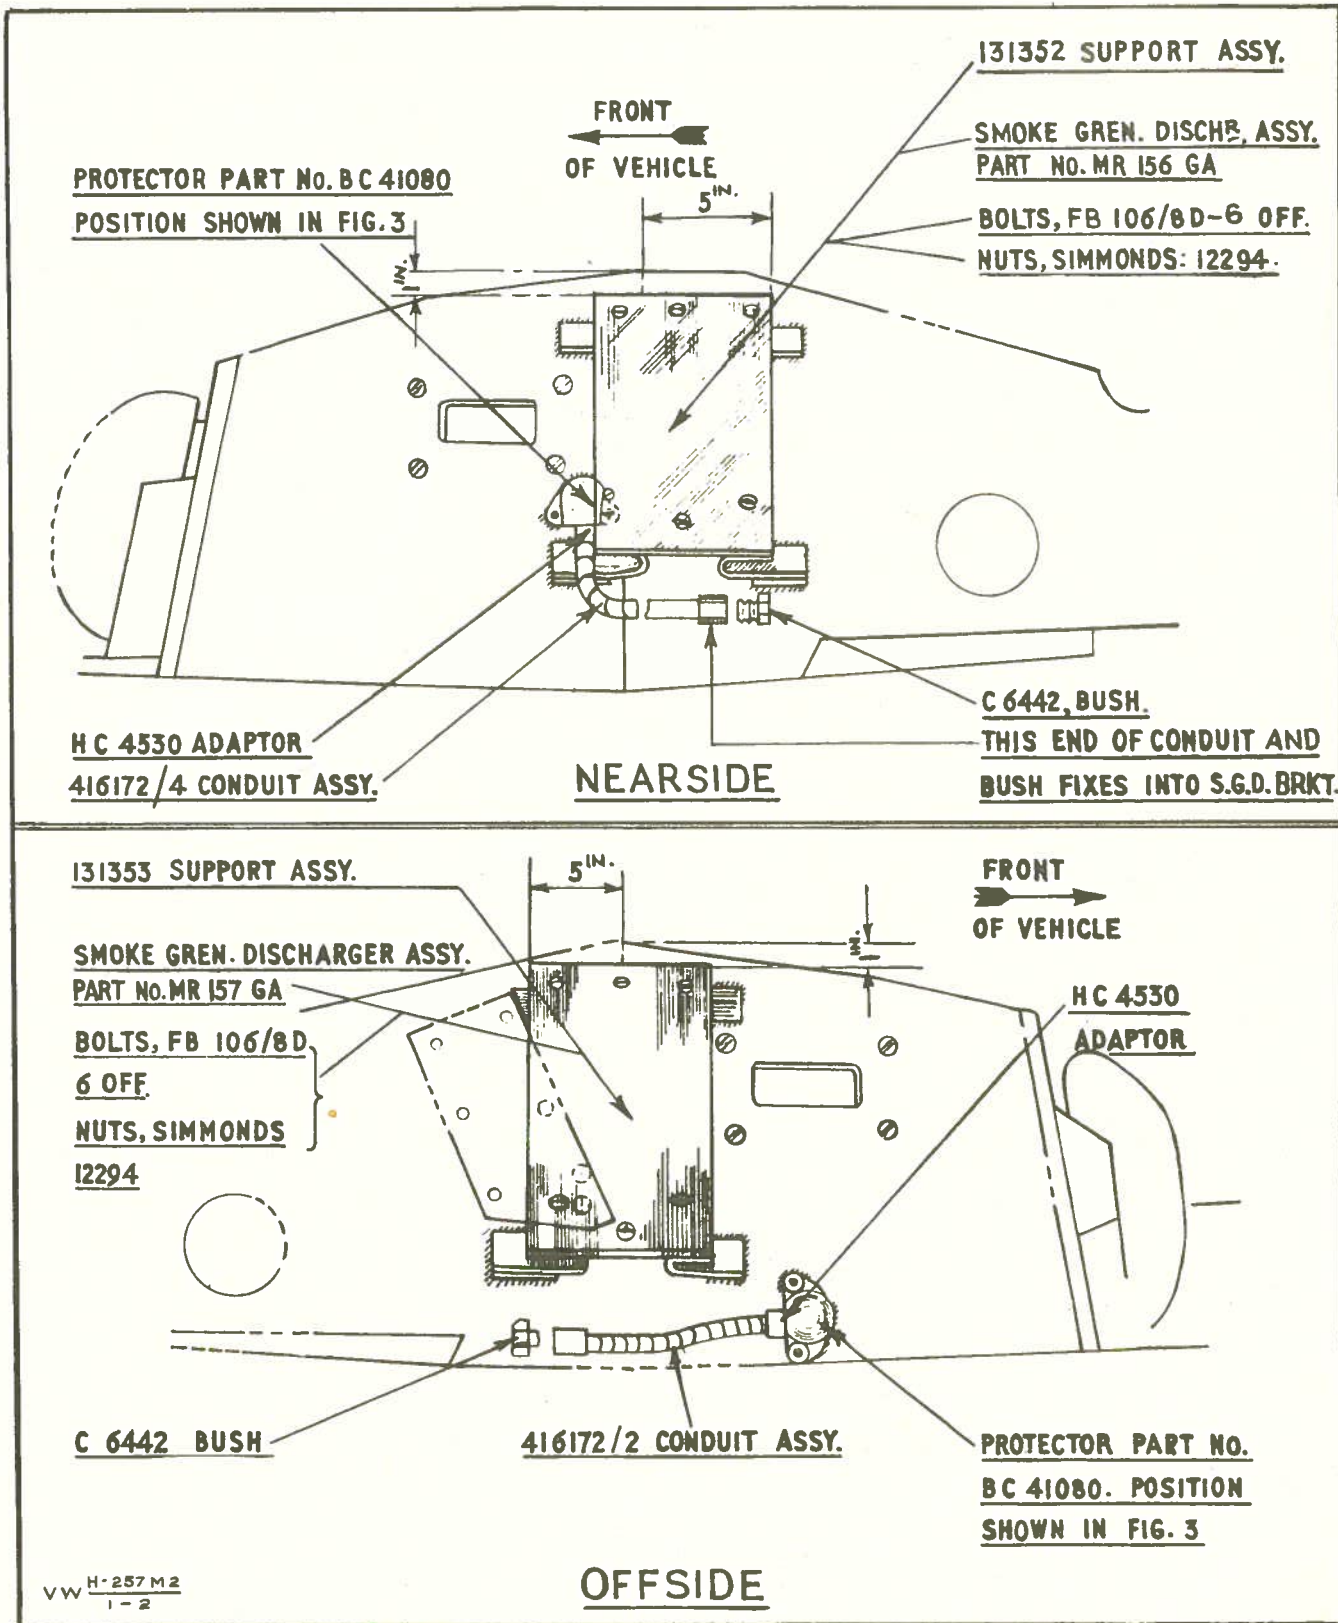

Fig. 2 - External views of turret, nearside and offside
- (c) Refer to Figs 2 and 3:-
- (d) Refer to Fig. 2:-
- (f) Refer to Figs. 2 and 3. Assemble the six conduit assemblies, using the elbows, tee-pieces, bushes, adaptors and locknuts provided and secure the assemblies to the turret panels in the positions indicated, using the clips provided.